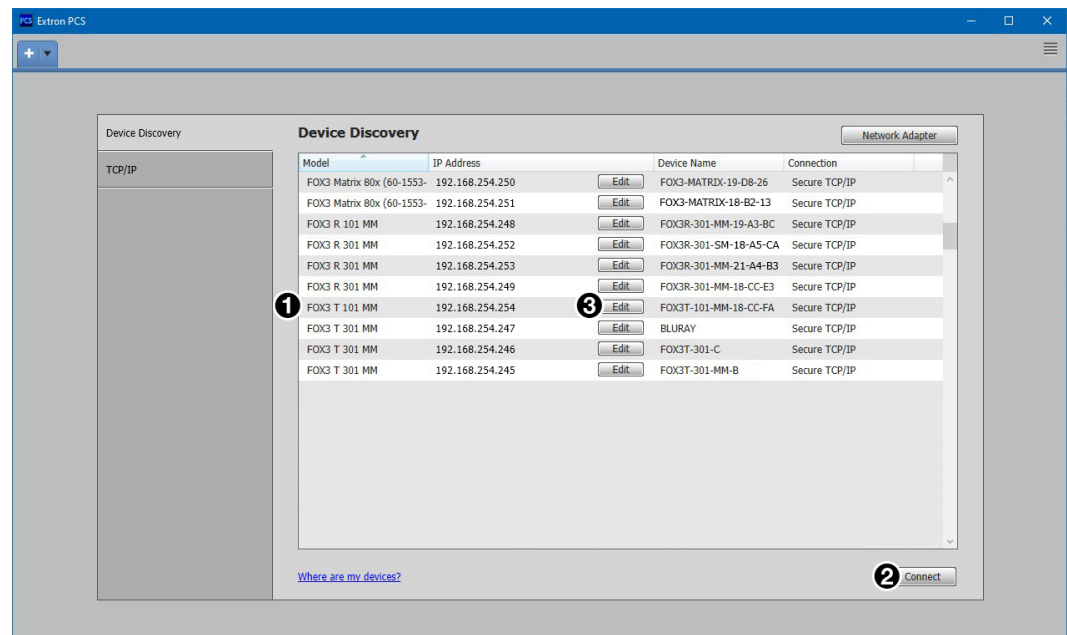

Figure 14. Device Discovery Panel
1. Click on the **Edit** button (3). The **Communication Settings** box pens.
2. Click in the field to edit the address (see figure 14) .